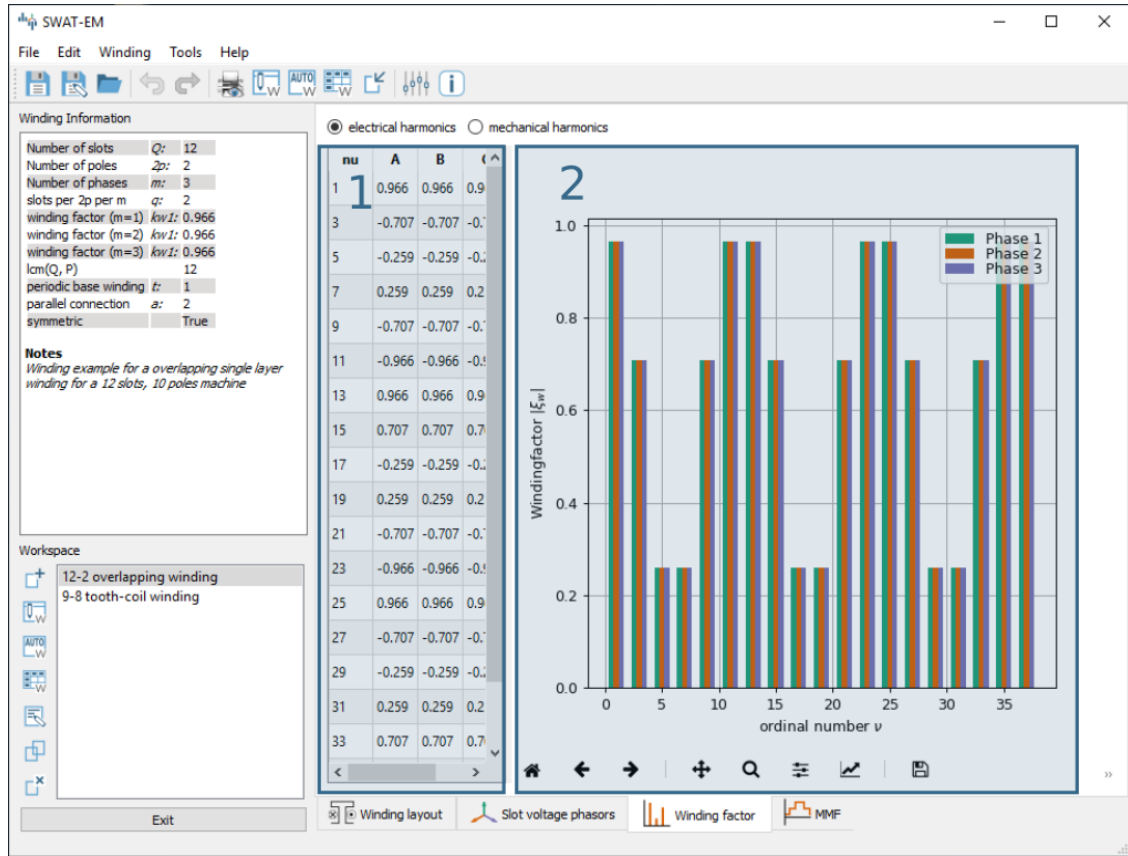

Figure 3.3: Winding factor plot
for every harmonic number and detecting the sequence of the phases. Figure 3.3 shows the values in (1) as a table and the absolute values as a bar plot in (2). Both can be displayed